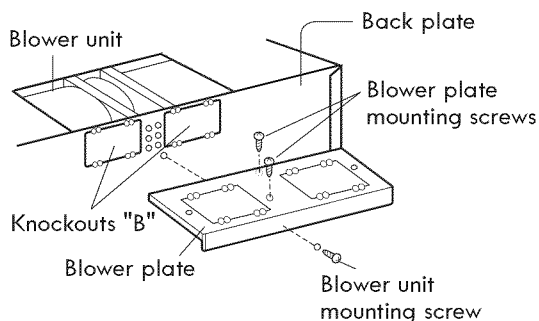

Figure 12
1. Remove one blower unit mounting screw and two blower plate screws. Remove the blower plate from cabinet. See Figure 12.